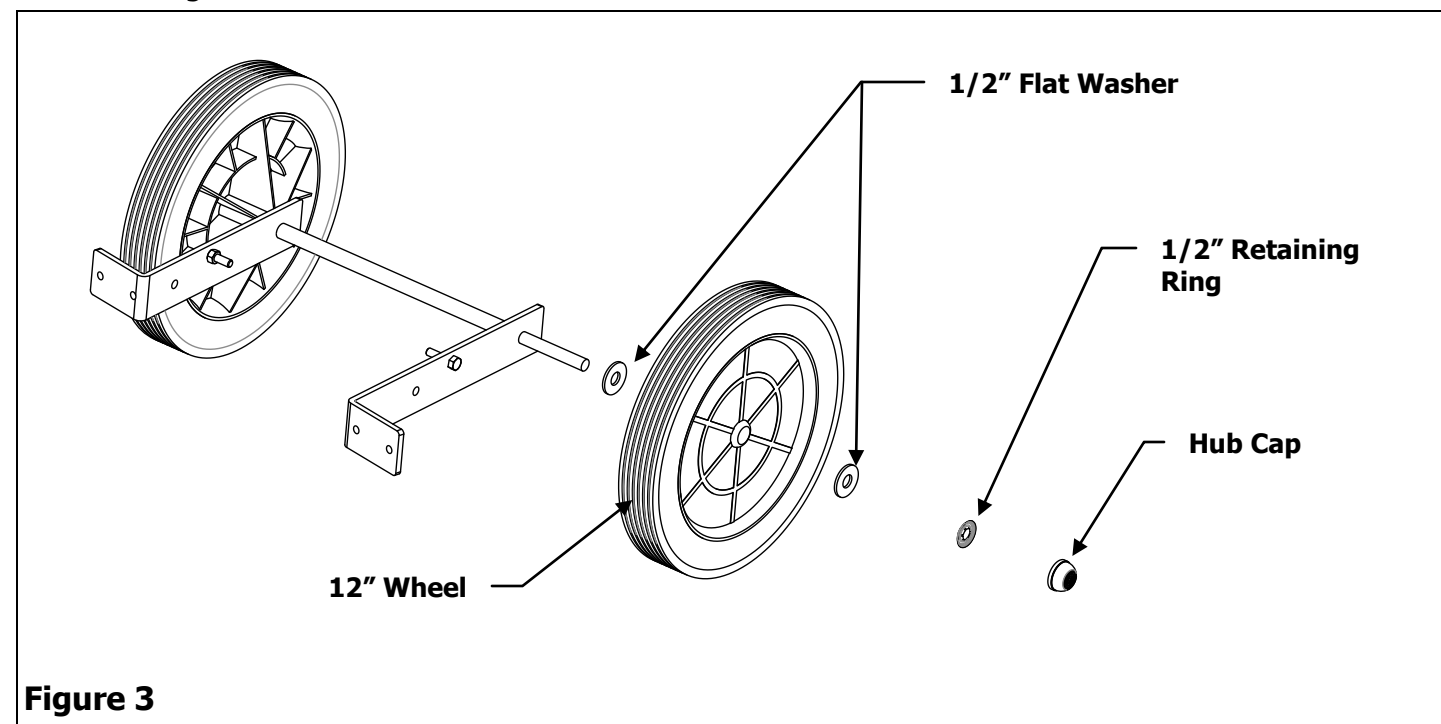

Figure 3
3. Place a 1/2" Flat Washer onto the Axle followed by a 12" Wheel and then another 1/2" Flat Washer. Secure first with a 1/2" Retaining Ring followed by a Hub Cap. Repeat process on other side. See Figure 3.